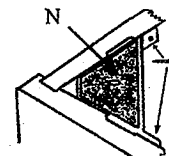

Figure 9
9. Install Corner Braces (Figure 9) and insert the drawers: place the corner braces on each top corner of the cabinet and secure them with 1/2" Corner Brace Screws. Slide the drawer into the rail and check the drawer position and adjust the drawer slides rail location for best operation if necessary. 2" screws are used for connecting corner braces and counter top.